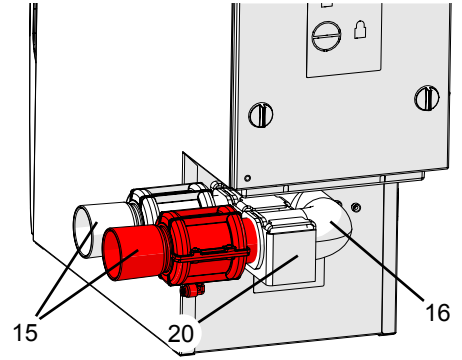

Fig. 3
The suction hoses are opened and closed via the pneumatic pinch valves (15, Fig. 3).
- ⇒ Pull the pinch valves (15, Fig. 3) out of the suction pipe (16, Fig. 3).
- ⇒ Unscrew the knurled head screw (19).
- ⇒ Loosen the suction pipe and the holder (20) from the holding screws (26) by turning and then at the back, remove from the extractor connection fitting (A).
- ⇒ Lever the suction pipe out of the holder (B), turn (C), and replace back into a new position in the holder (D).
- ⇒ Insert the suction pipe into the extractor connection fitting on the extraction device, hang (E) the holder into the holding screws (26).
- ⇒ Fix the holder with the knurled head screw (19).